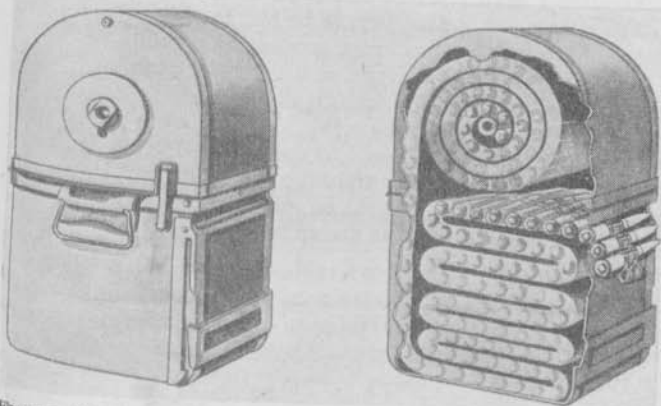

FIGURE 75.—Cut-away view of caliber .50 ammunition chest M2 showing correct method of folding ammunition belt.
* 125. PLACING AMMUNITION IN CHESTS.—*a.* In loading ammunition link belts into M2 ammunition chests, the end of the belt having the open single loop is rolled on the reel and the remainder of the belt folded into the body of the chest so that the end with the double loop lies on top ready to be fed into the receiver. (See fig. 75.)